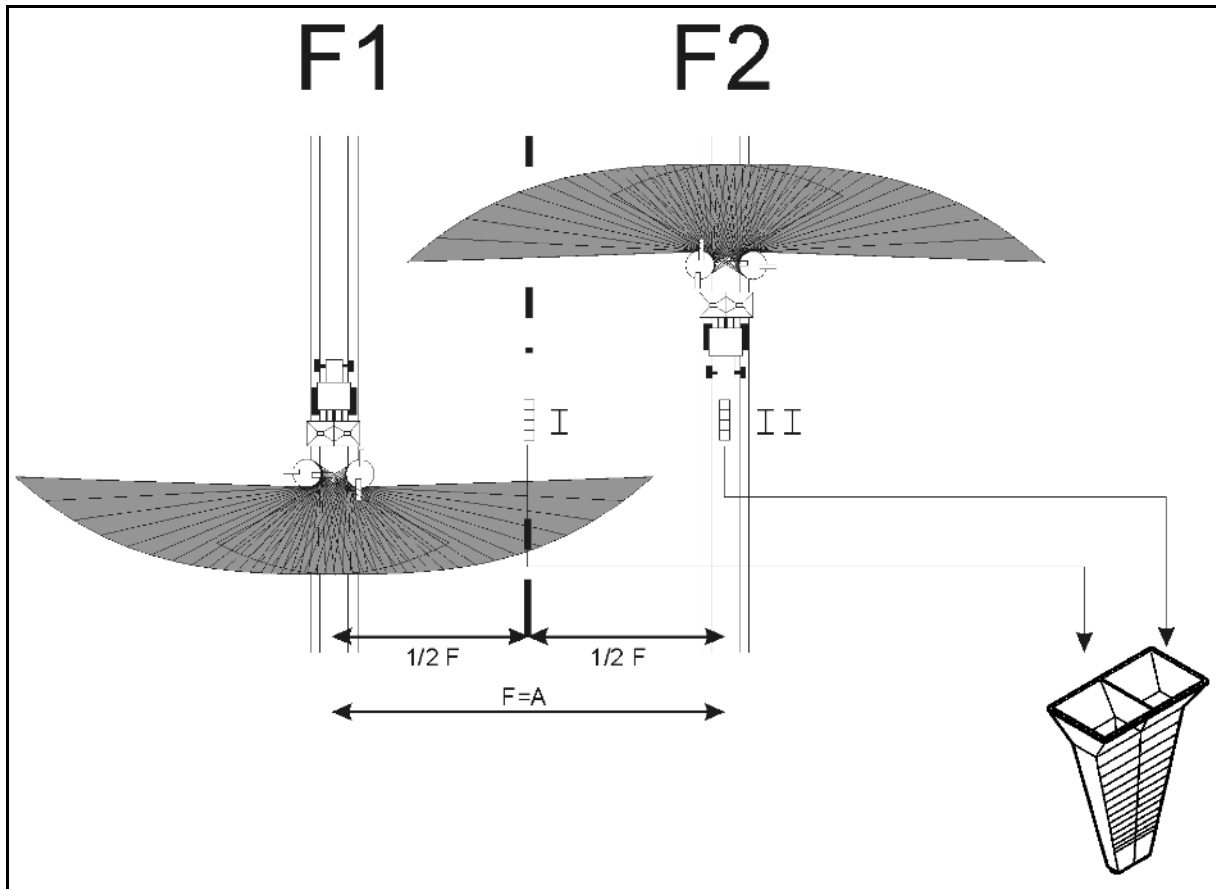
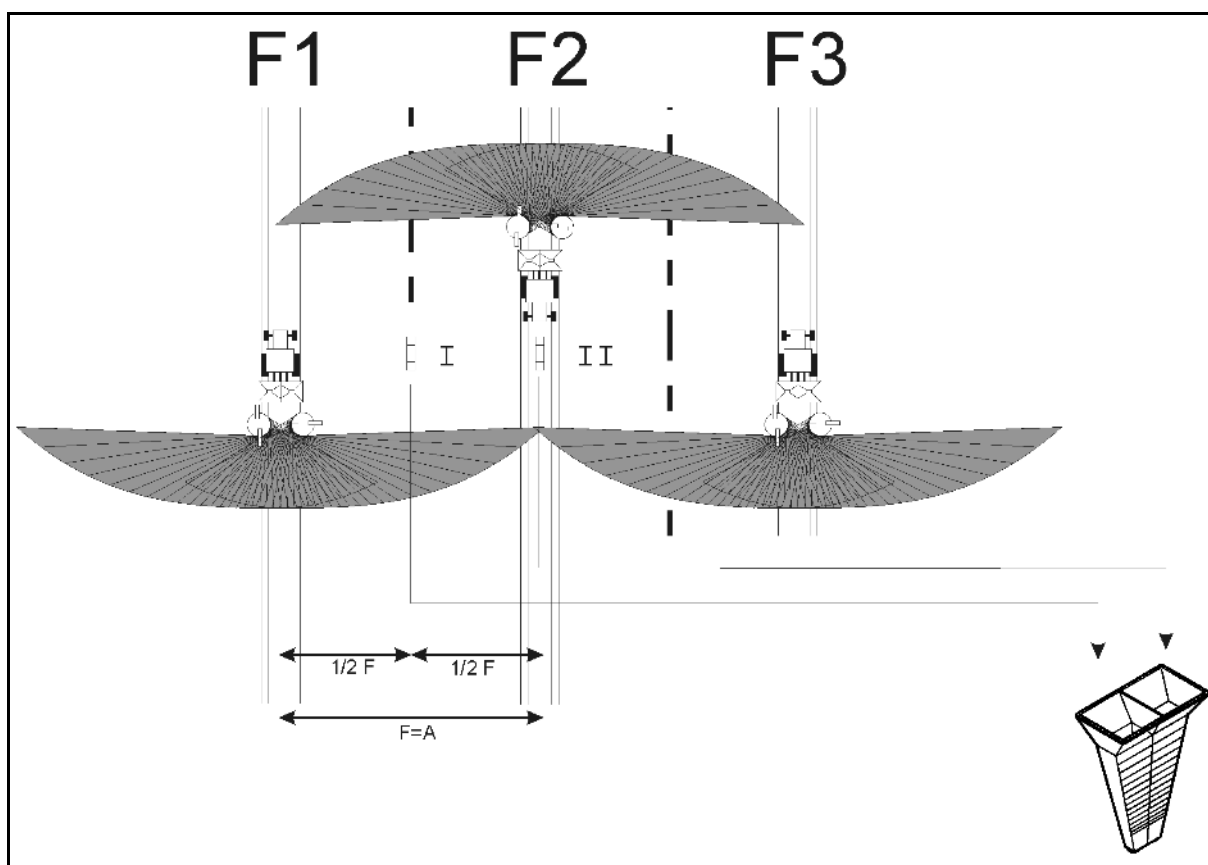

Fig. 1
Fig. 2
Each 4 collecting trays are arranged one after another and parallel in 4 rows. This way a better check of the fertiliser lateral distribution is (Fig. 1). Pouring together the collected fertiliser amounts of the relevant 4 collected fertiliser quantities results in a clear mean value (Fig. 2).
Place the collecting trays as follows on an even ground surface (Fig. 1):
- 3.1 If not, only travel along tramline **F2** (Fig. 1)
- 3.2 In the affirmative travel along tramline **F2** and **F3** (Fig. 2).